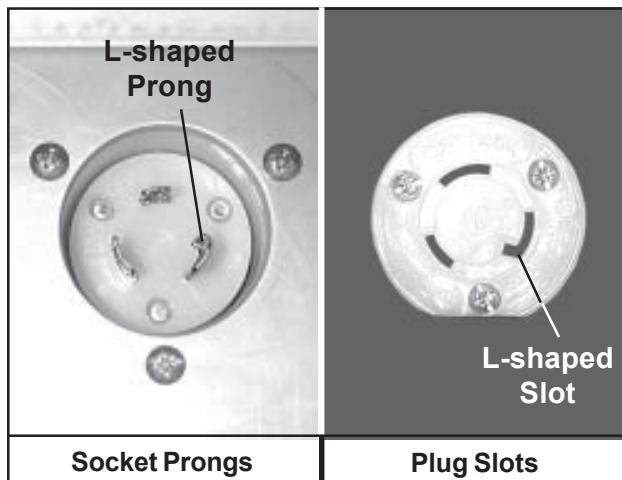

Figure 94. Electrical Connection Plug and Socket
Note: Look at the three prongs in the connector socket (Figure 94). Notice that two are curved, and one is curved with an L-shaped tab on one end. Notice also that there are matching slots on the plug.
2. Insert the plug, then twist it clockwise to lock it (Figure 94).